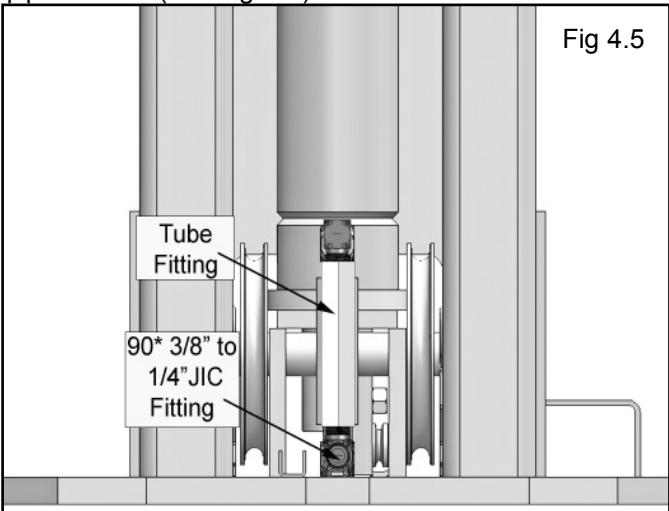

Fig 4.5
4. Connect Tube Fitting Assembly to the 90° 3/8 Fitting that was installed into the Cylinder Port, using Teflon tape on the pipe threads. (See Fig. 4.5)